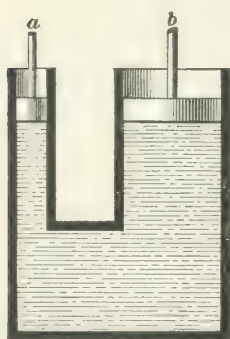

FIG. 9.
18. In Fig. 9, let the area of the piston *a* be 1 square inch; of *b*, 40 square inches. According to Pascal's law, 1 pound placed on *a* will balance 40 pounds placed on *b*.